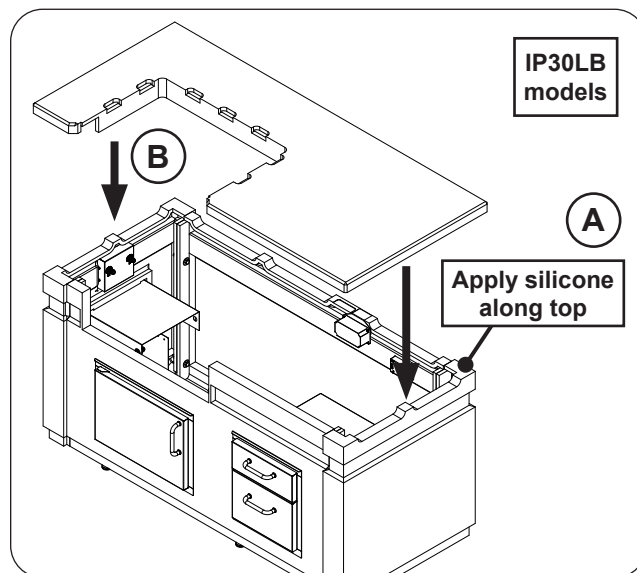

Fig. 10-2 Place countertop
1. Apply silicone along the top of the island (see Fig. 10-2, A).
2. Place the countertop onto the island as shown in Fig. 10-2, B. (Be sure to align the cutout in the countertop with the opening in the front wall.)